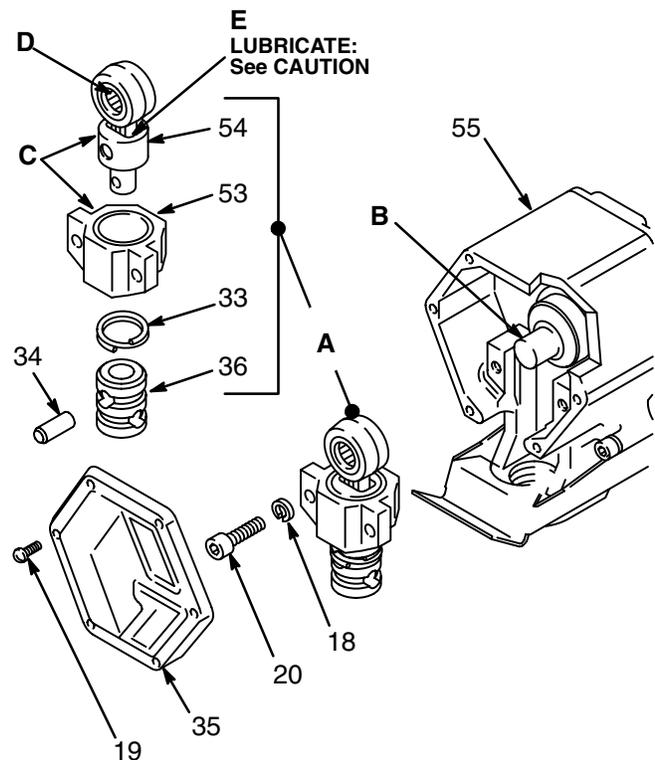

Fig 20–1
**NOTE:** Refer to Fig 20–1 for this procedure unless otherwise instructed.
2. Remove the front cover (35).
3. Remove the bearing housing screws (20).
4. Slide the bearing and connecting rod assembly (A) off the crankshaft (B).
5. Use a screwdriver to push the retaining spring (33) up. Remove the pin (34) and the coupling (36).
6. Clean and inspect the bearing housing (53) and connecting rod (54), including the needle bearing (D). Replace both parts if either is worn or damaged.
7. Clean and inspect the crankshaft (B). Wipe the crankshaft clean with a rag (don't use solvent). If the crankshaft is badly worn, replace the drive assembly (55). See page 21.